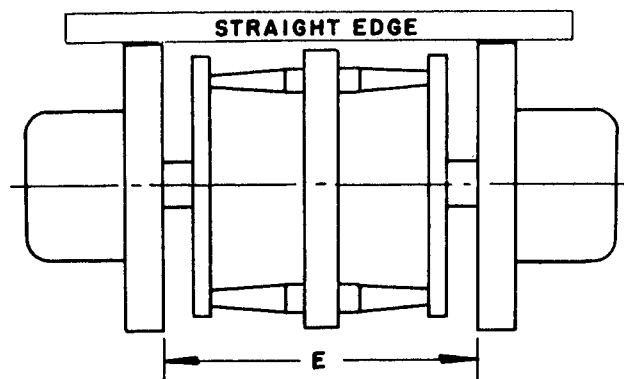
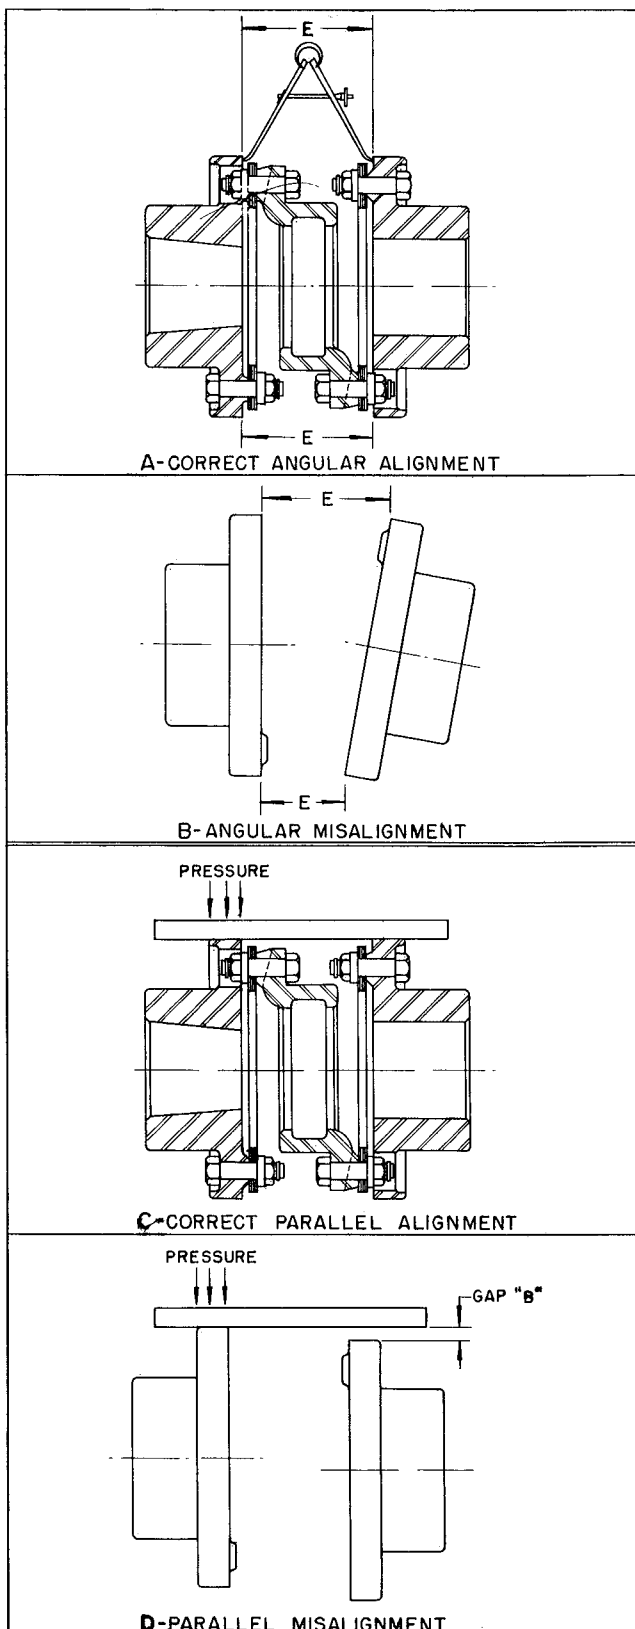

Fig. 67 — Preliminary Adjustment
Fig. 70 – 5H120-623 Coupling Alignment
5H120-623 COUPLING — When using the dial indicator method, follow the standard procedure. When using the Straight Edge and Caliper Method, however, use only Steps 1 thru 8 and refer to Fig. 70.
8. Move and shim the motor until dimension E (see table above) is correct when measured at 4 positions 90 degrees apart, and the edges of the flanges are in line when tested with a straight edge as illustrated in Fig. 67. For the 5H80-623 coupling, measure the coupling at the center of the arcs on the compressor flange and then rotate the coupling 90 degrees for each of the other 3 measurements. REMINDER: For the 5H120-623 coupling, refer now to Fig. 70.